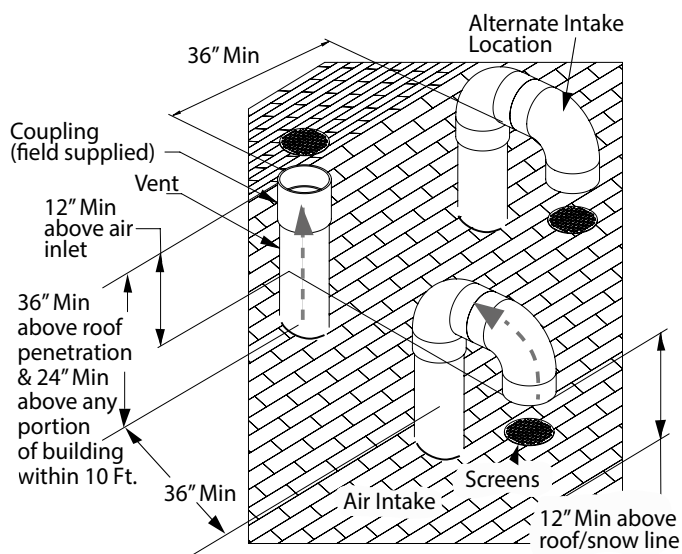

Figure 17. Vertical Terminations
1. The vent must terminate in a straight length of pipe or coupling. **Do not use a rain/vent cap for a vent termination.** When the combustion air is taken from the roof, it must terminate in a double elbow arrangement as shown in Figure 17, or an approved rain cap (for stainless steel venting only).